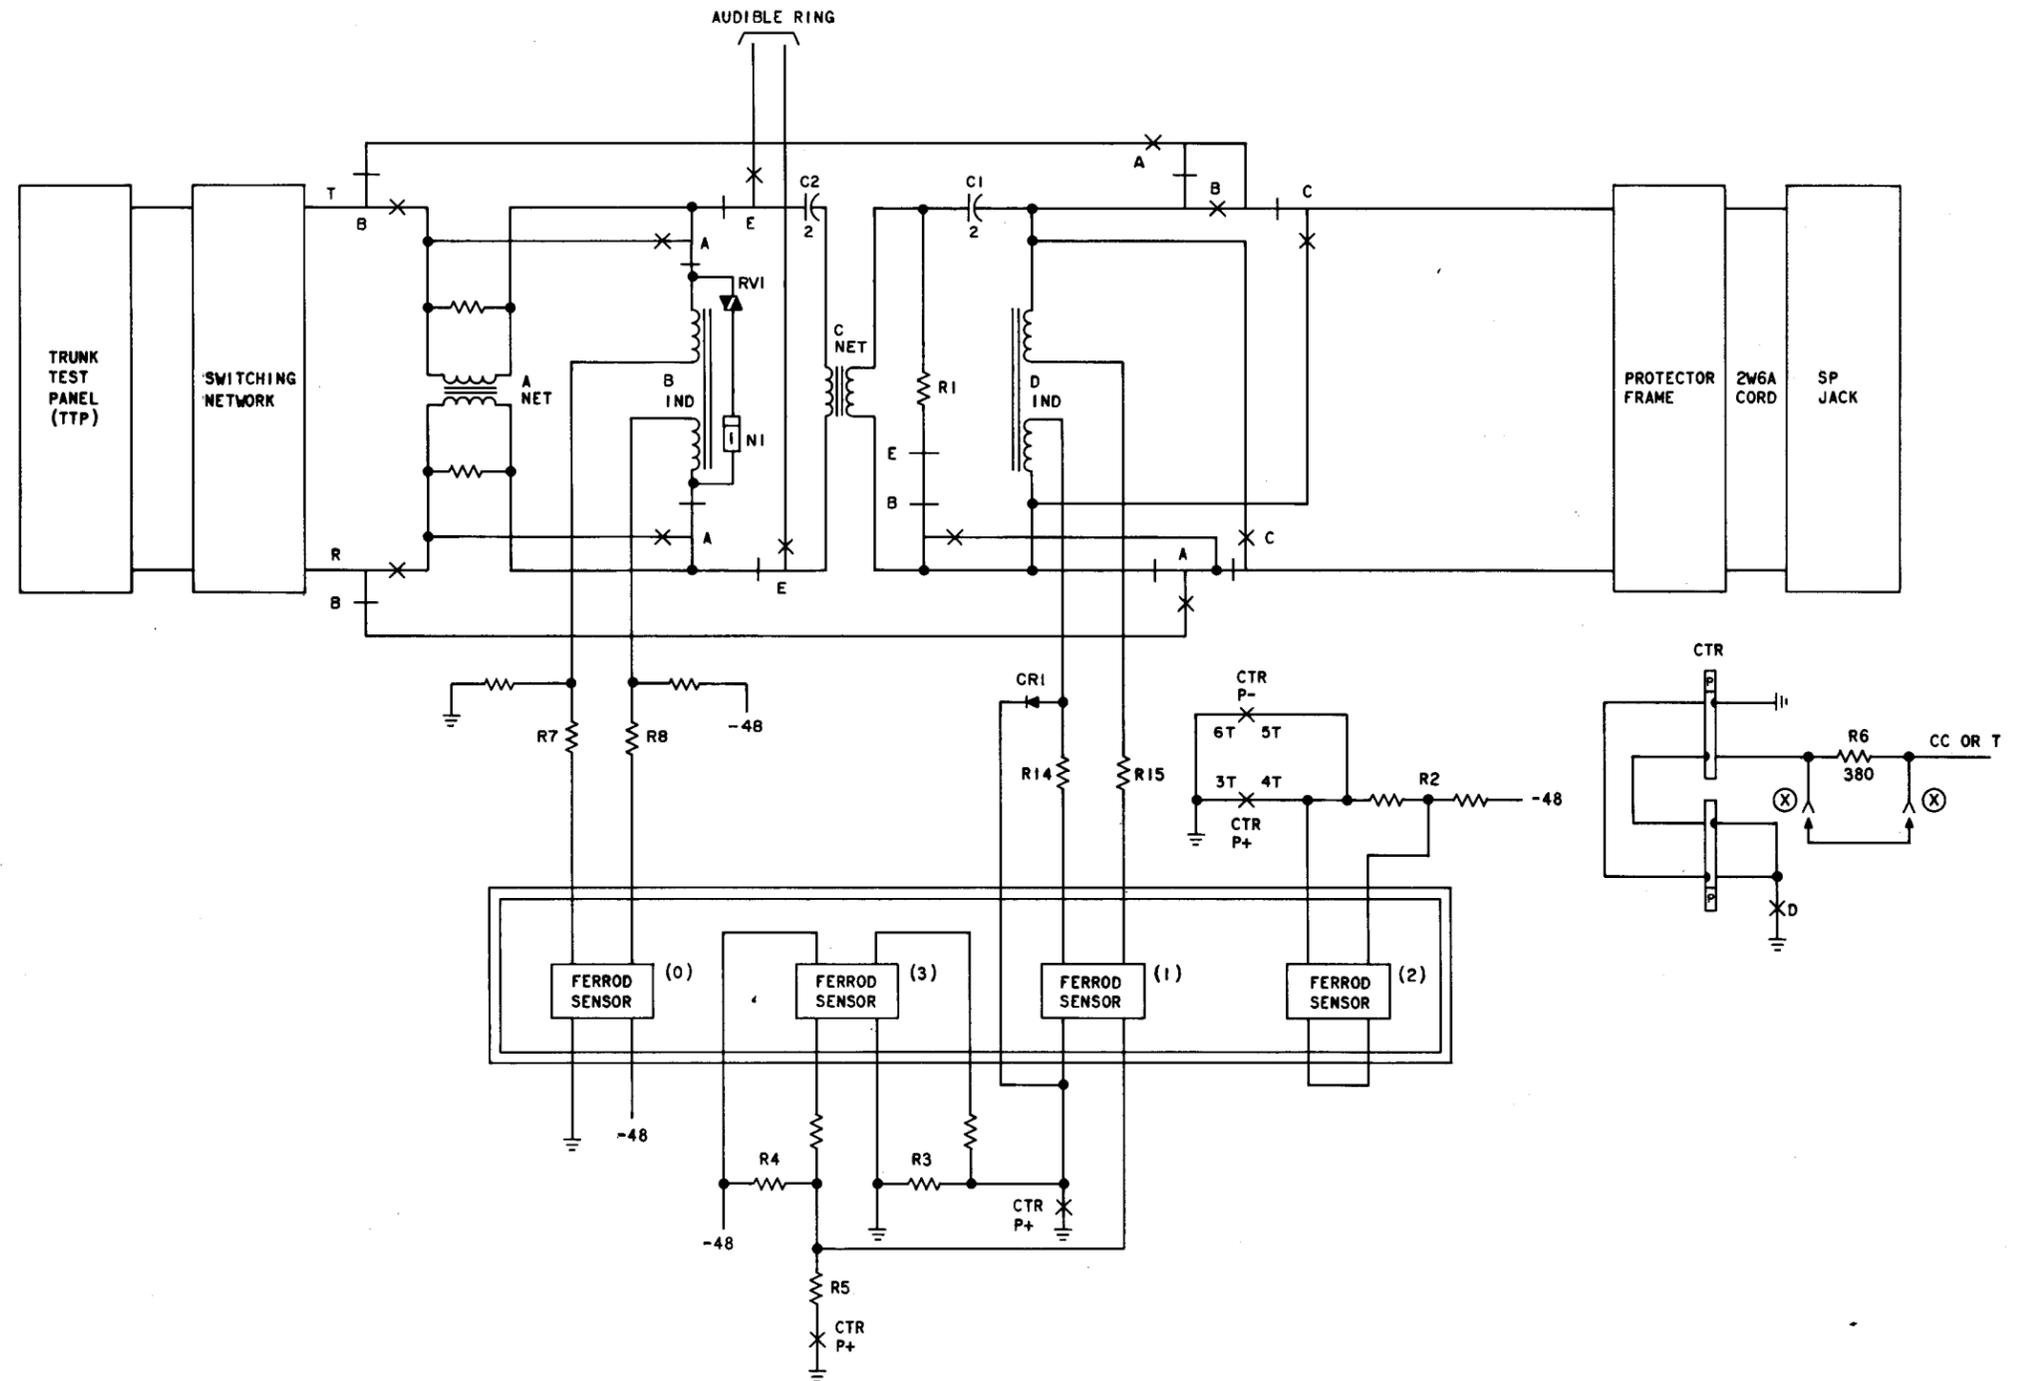

Fig. 1—Incoming Trunk Circuit (SD-2H108)
3.06 The following is a step-by-step procedure to make the incoming trunk circuit traffic busy and connect it to the TTP (Fig. 1).